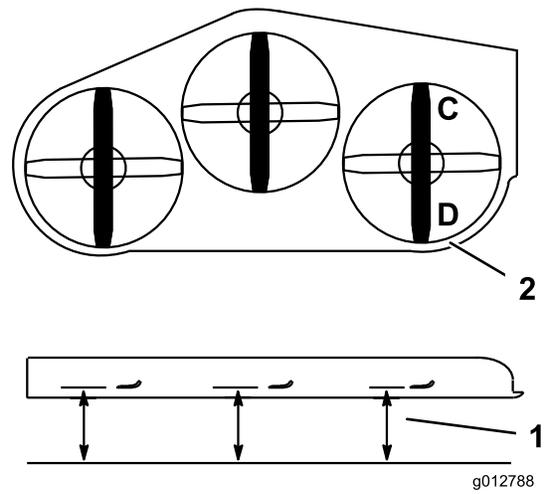

Figure 84
1. Position the right blade front-to-rear (Figure 84).
2. Measure the right blade at the **C** location, from a level surface to the cutting edge of the blade tip and record this measurement (Figure 84).
3. Measure the right blade at the **D** location, from a level surface to the cutting edge of the blade tip and record this measurement (Figure 84).
4. The mower blade should be a 1/4 to 3/8 inch (6 to 10 mm) lower at position **C** than at position **D** (Figure 84). If it is not correct, proceed to the following steps.